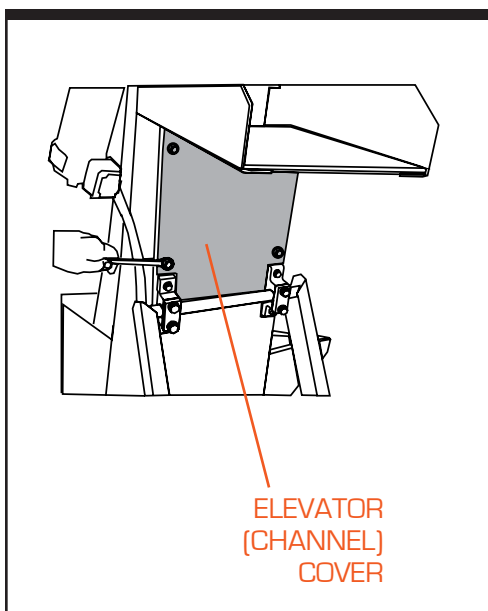
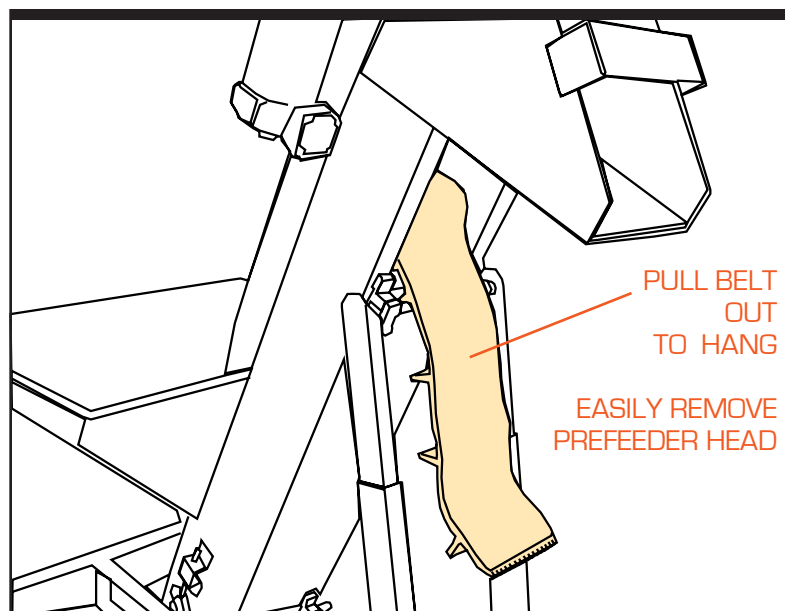
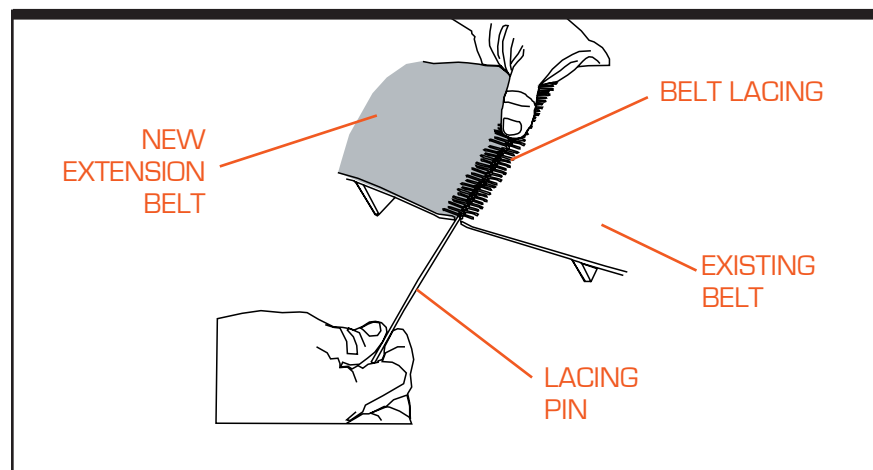

Figure 3-5. Remove Elevator Cover
Figure 3-6. Pull Belt Out to Remove Head
Figure 3-10. Attach New Belt Extension to Existing Belt
Step 3—Remove Channel Cover. Located on the underside of the prefeeder's elevator is a cover over the belt return (Figure 3-5). Undo the four hex bolts that hold the upper cover plate in place, and set the plate aside. Pull the belt down from the prefeeder's head, and let the belt hang (see Figure 3-6).
Step 9—Attach New Belt Extension. Both ends of the new extension belt are laced. Attach one end of the belt extension to the part of the belt hanging out of the prefeeder's channel (Figure 3-6), using the lacing pin to lock both ends together (Figure 3-10). Feed the belt back through the neck of the prefeeder and through the head, letting it flow down the elevator of the prefeeder towards the hopper. Attach the other end of the belt extension to the end of the belt rising up from the base of the hopper. Retighten the take-up pulley to apply some tension to the belt (refer to Step 12 for more information on tracking/adjusting your belt).